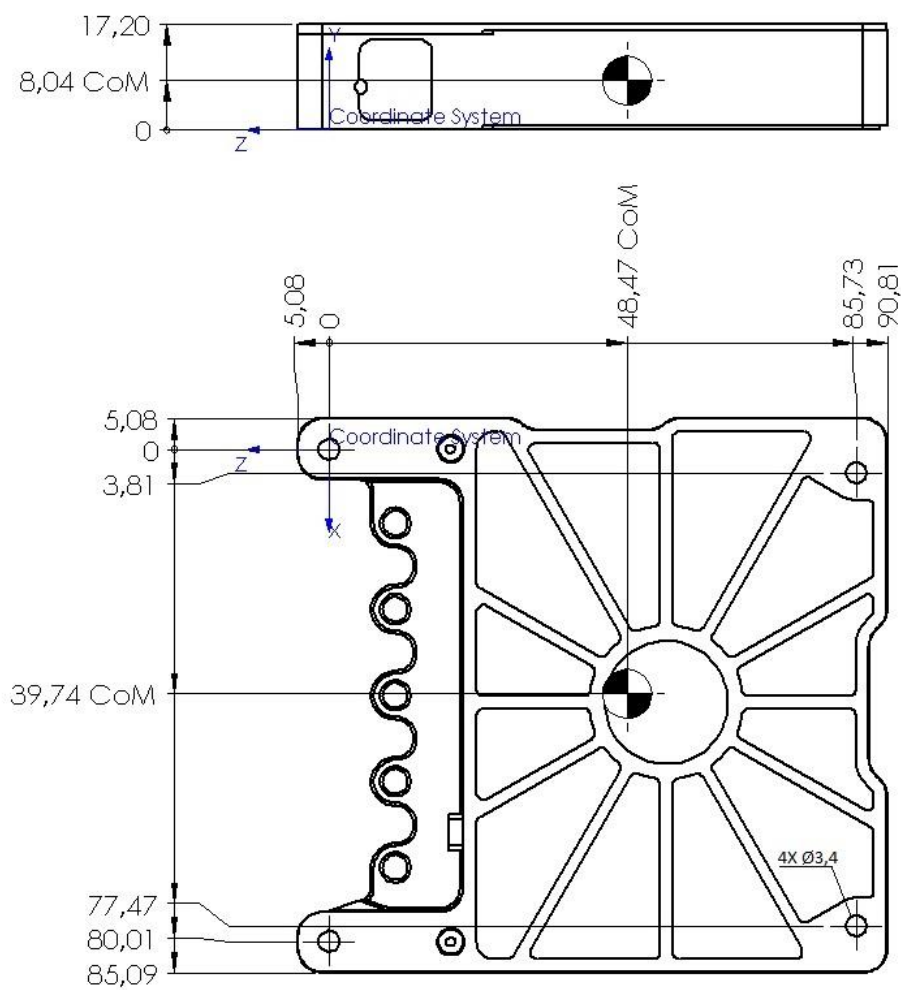
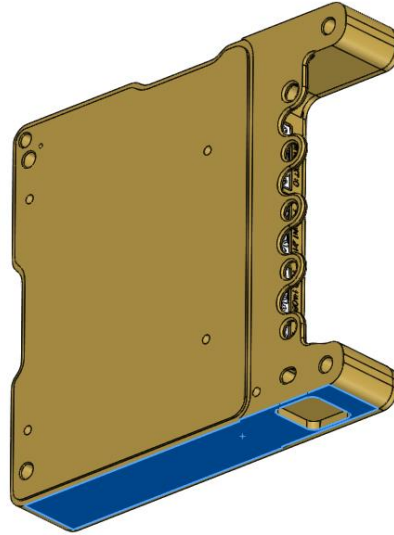

Figure 2 The dimensions of the Sirius TCM product, all measurements in mm
Figure 3 The Sirius products thermal interface
- Figure 2, mechanical hole dimension added
The center of mass (CoM) is identified in Figure 2 with the origin and direction of the coordinate system indicated by the blue text.
The moment of inertia (Mol) for the mechanical structure is defined by the table below using the coordinate system origin is defined by Figure 2.
The primary thermal interface area of the unit is the flat surface on the +x face of the unit as shown in Figure 2 and marked blue in Figure 3. The maximum allowed temperature at the thermal interface is 60°C, this figure is what has been used for design analysis and exceeding it will violate component derating rules. The size of the thermal interface area is 1212.75 mm².